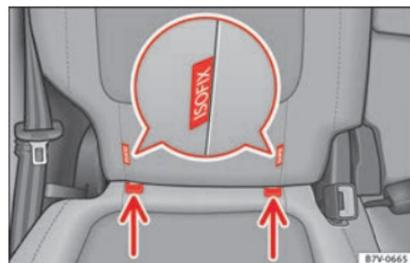

Fig. 38 Version 2: identification of the anchor points for the child seat on the vehicle seat
- Press the child seat onto the retaining rings » **Fig. 38** in the direction of the arrow. The child seat must be safely engaged and click audibly into place.
- Place the child seat on the seat cushion and attach the retaining strap hooks to the retaining rings » **Fig. 38**.